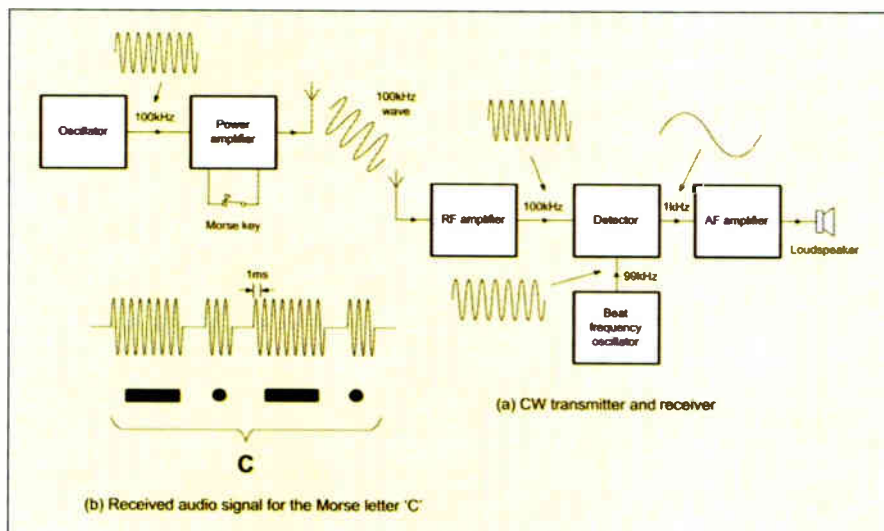

Fig.11.4. A simple CW radio communication system
Fig.11.4 shows a simple radio communication system comprising a Transmitter and Receiver for use with continuous wave (CW) signals. Communication is achieved by simply switching (or "keying") the radio frequency signal on and off using Morse code to convey information.